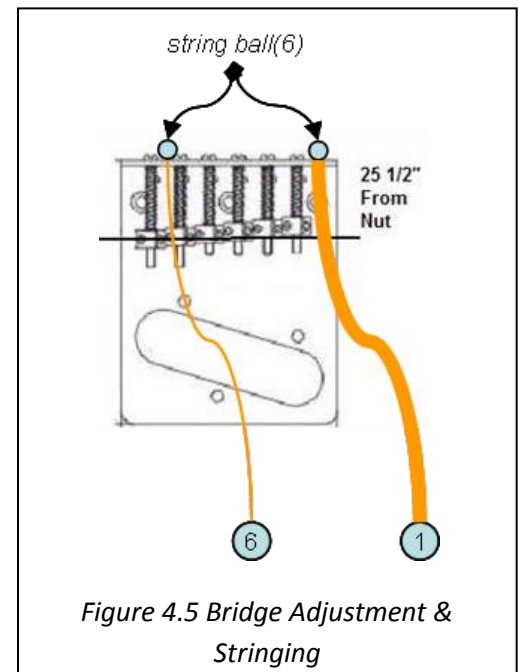

Figure 4.5 Bridge Adjustment & Stringing
1. Measure from the nut to the high E saddle on the bridge. (Figure 4.5).
1. Carefully uncoil each of the strings (6), ensuring that the strings do not have a kink.
2. Run the largest diameter string through the upper hole in the base plate (Figure 4.5), carefully seating the string ball against the base plate.